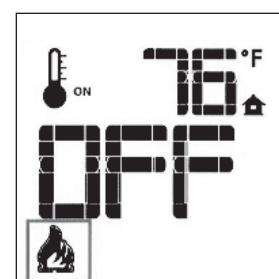

Figure 59. Burner OFF.
- With the system ON, and the burner flame level at maximum, press the Down Arrow Key once to reduce the flame height by one step. Each time the Down Key is pressed, the flame will step down until the burner is finally turned off. Fig. 59.